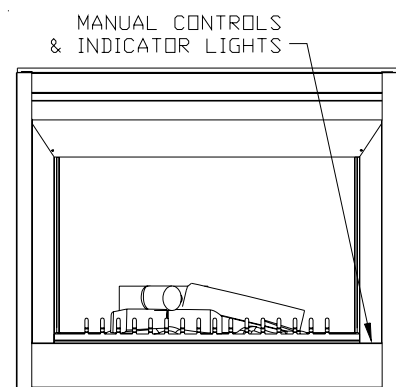

FIGURE 2
2. Locate manual controls refer to FIGURE 2.
4. Press - (ON) button located on the manual controls selection controls (FIGURE 2) for 3 seconds. All 3 indicators will flash